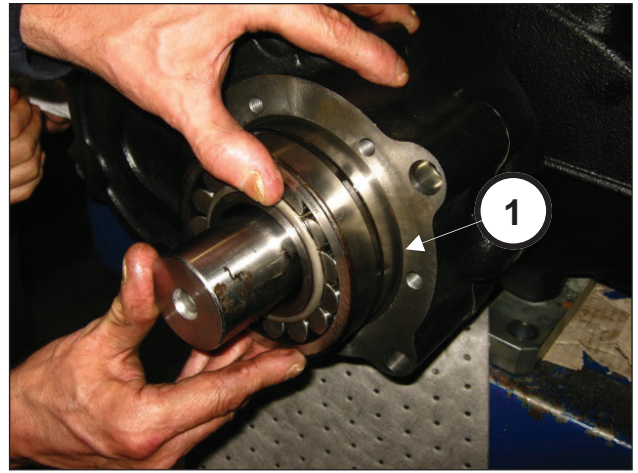

Fig. 74
Insert the 60x130x46 bearing on the pinion (pos. ①, Fig. 74).